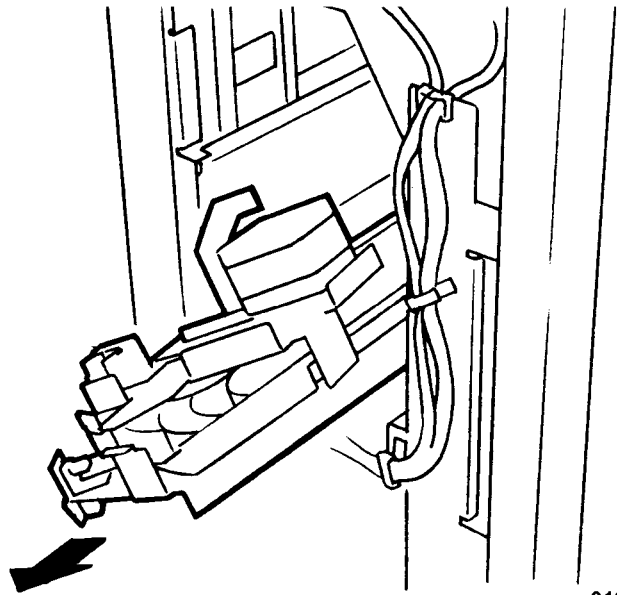

Figure 7 Removing Rail Assembly
8. Remove the Rail Assembly (Figure 7).